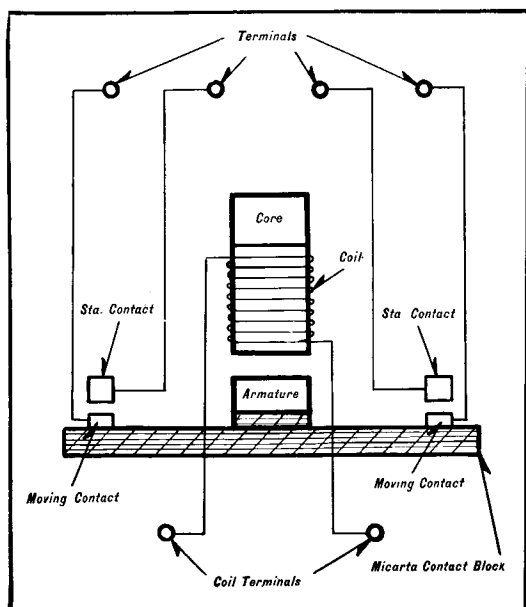

Fig. 22—Internal Wiring Diagram of Type M-2 Relay. Two Independent Circuits Made When Relay Operates
- M-2—Two independent make contacts (Figure 22)